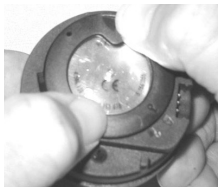
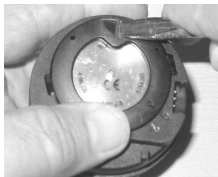

Fig. 68 - TABS ENGAGE
Fig. 69 - TABS TIGHT
- Using your fingers, turn the Ring counter clockwise 5 degrees until the tabs engage (Fig. 68), then tighten it 5 more degrees by turning it counter clockwise with the aide of a small blade screwdriver (Fig. 69).